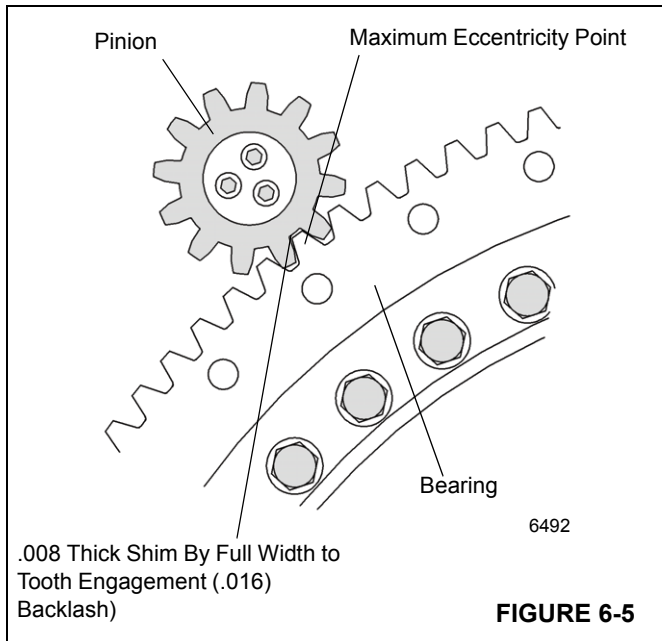

FIGURE 6-5
- Using shims, set backlash by moving the swing drive assemblies toward the bearing in order to mesh the pinion with the ring gear teeth (see Figure 6-5).